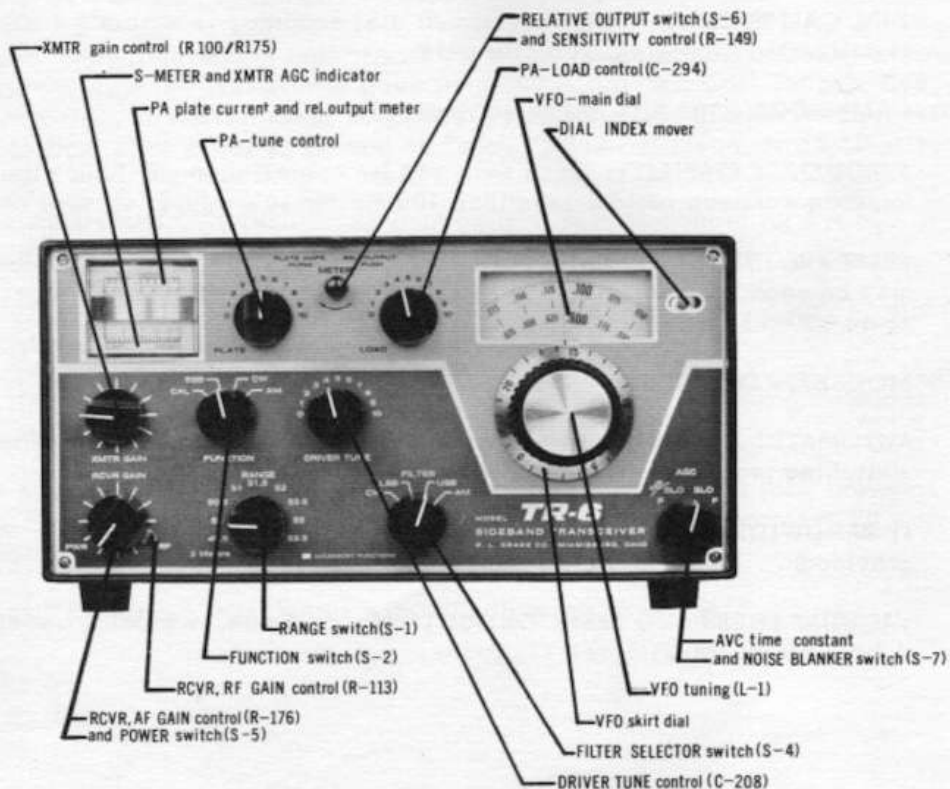

FIG. 1—FRONT VIEW
A. FRONT PANEL CONTROLS (see figure 1)